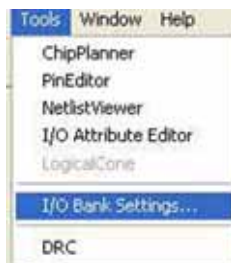

Figure 3-35. I/O Bank Settings
1. Select *I/O Bank Settings* from the PinEditor Tools menu, as shown in Figure 3-35.